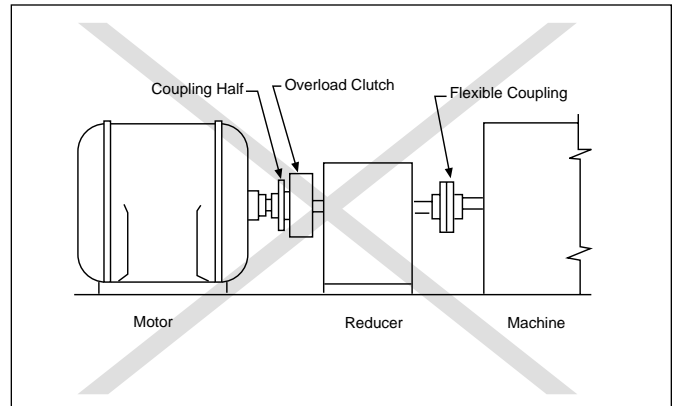
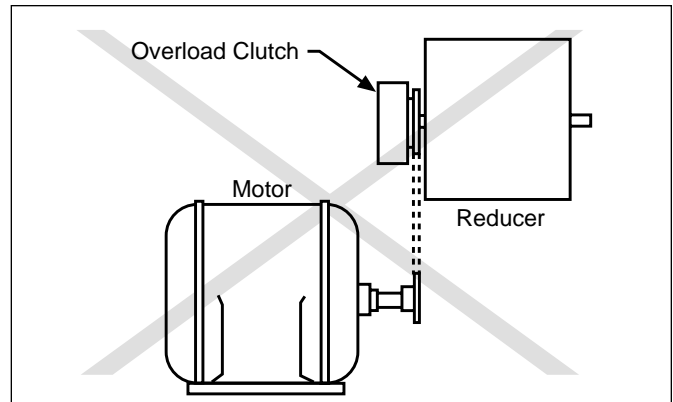

FIGURE 10
FIGURE 12
b. Locating the clutch as shown in Figure 10 is **not preferred**. Here the clutch is mounted on the high-speed side of the reducer. Generally, mounting in this manner requires the clutch to be hypersensitive to perform satisfactorily.
b. The mounting location in Figure 12 is **not preferred** for the same reasons as those for Figure 10. Always consult the factory when a mounting of this type is necessary.